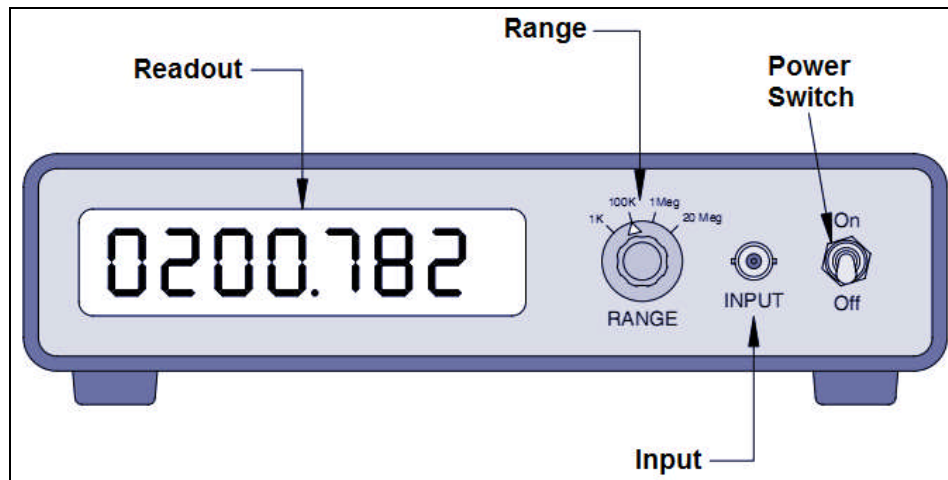

Fig. 1.3-16 Frequency Counter
In some applications, principally radio frequency (RF) and digital, it is necessary to determine the frequency at which a circuit is operating. In these cases a frequency counter (Fig. 1.3-16) is used. These instruments generally have an LED (light emitting